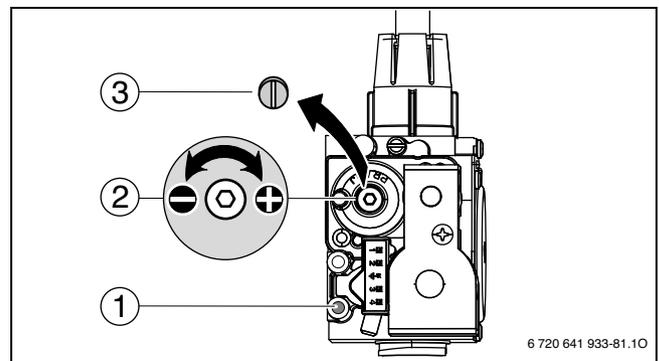
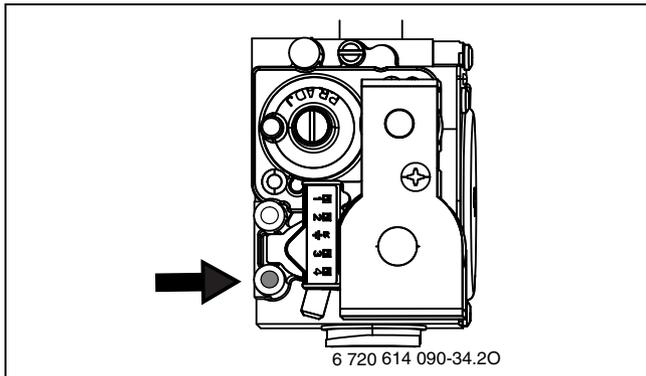

Fig. 74 Set CO₂ or O₂ level for minimum nominal output
Fig. 75 Dynamic gas pressure test port
- ▶ Remove the sealed screw (→ Fig. 74, [3]) from gas valve adjustment screw (→ Fig. 74, [2]) and set CO₂ or O₂ level for minimum nominal output.
- ▶ Reinstall the screw (→ Fig. 74, [3]) to cover the gas valve adjustment screw.
- ▶ Loosen the screw in the test port for gas inlet pressure (→ Fig. 74, [1]) and connect a pressure gauge (→ Fig. 75).